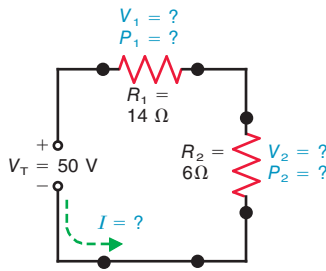

Figure 5-12 Analyzing a series circuit to find I , V_1 , V_2 , P_1 , and P_2 . See text for solution.
Refer to Fig. 5-12. Suppose that the source V_T of 50 V is known, with a $14\text{-}\Omega$ R_1 and $6\text{-}\Omega$ R_2 . The problem is to find R_T , I , the individual voltage drops V_1 and V_2 across each resistor, and the power dissipated.
2. To calculate I , the total V_T can be divided by the total R_T , or an individual IR drop can be divided by its R . For instance, the current in Fig. 5-12 could be calculated as V_2/R_2 or $15/6$, which equals the same 2.5 A for I . However, do not mix a total value for the entire circuit with an individual value for only part of the circuit.